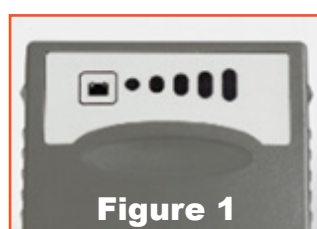

Figure 1
- Obtain two charged batteries from patient's accessory bag or battery charger. The charge level of each battery can be assessed by pressing the button on the battery. Fully charged batteries will display 5 lights. (Figures 1 and 2)